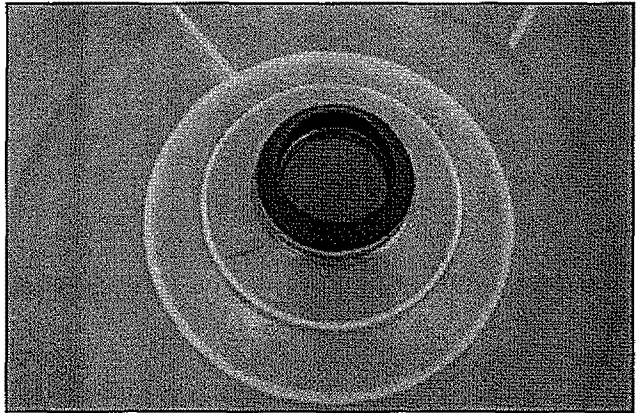

FIGURE 18
19. Use dish soap or rinse aid on new center post gasket to help insert into the new tub assembly. Ensure that the center post gasket is inserted correctly as shown in the picture below. See *Figure 18*.